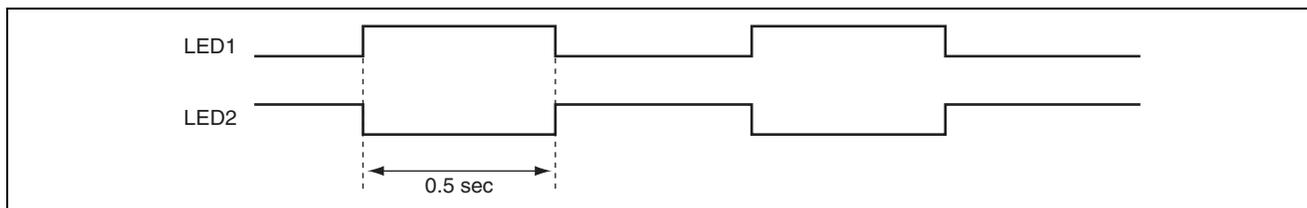

Figure 1.1 Blinking of LEDs
- Two LEDs connected to the ports are alternately turned on and off, as shown in figure 1.1.